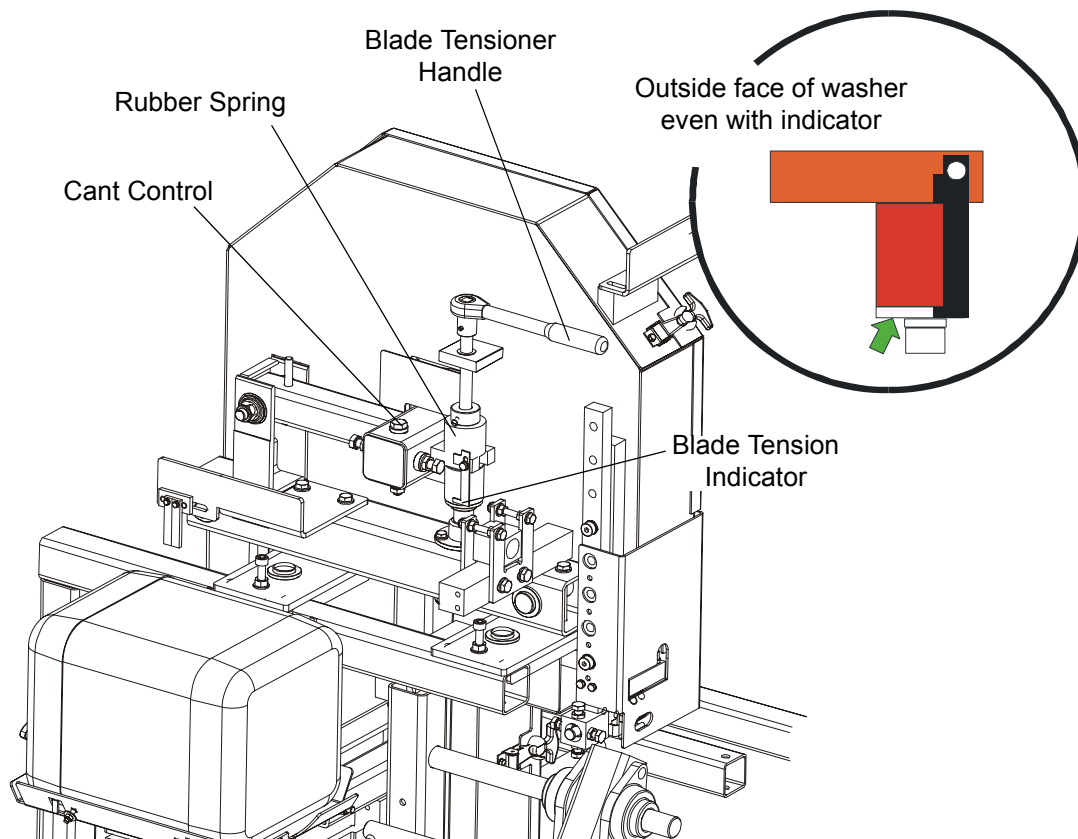

FIG. 2-3
See Figure 2-3. Place the provided handle on the blade tensioner shaft. Turn the handle clockwise until the outside face of the rubber spring washer is even with the indicator (see the figure below). Check the blade tension occasionally when adjusting the cant control or while cutting and adjust if necessary. As the blade and belts heat up and stretch, the blade tension will change. Also, ambient temperature changes can cause tension to change.
5. Use the cant adjustment bolt, shown in **Figure 2-3**, to adjust where the blade travels on the blade wheels.